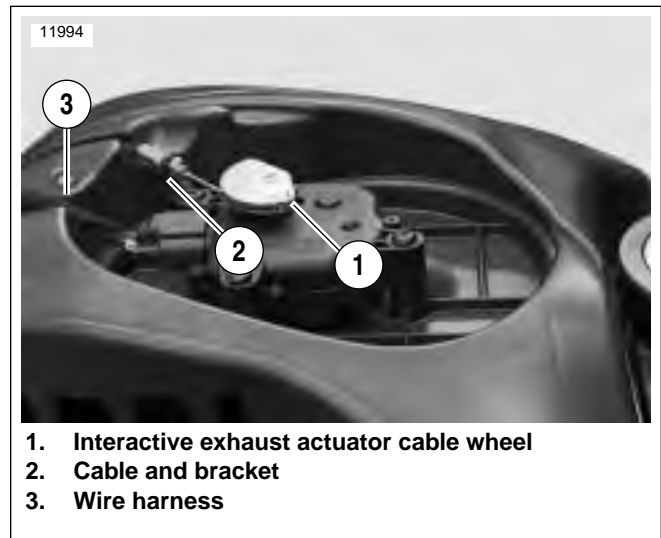

Figure 7-91. Interactive Exhaust Actuator
2. See Figure 7-91. Attach controls:
- a. Attach interactive exhaust cable (2) to cable wheel (1) on actuator.